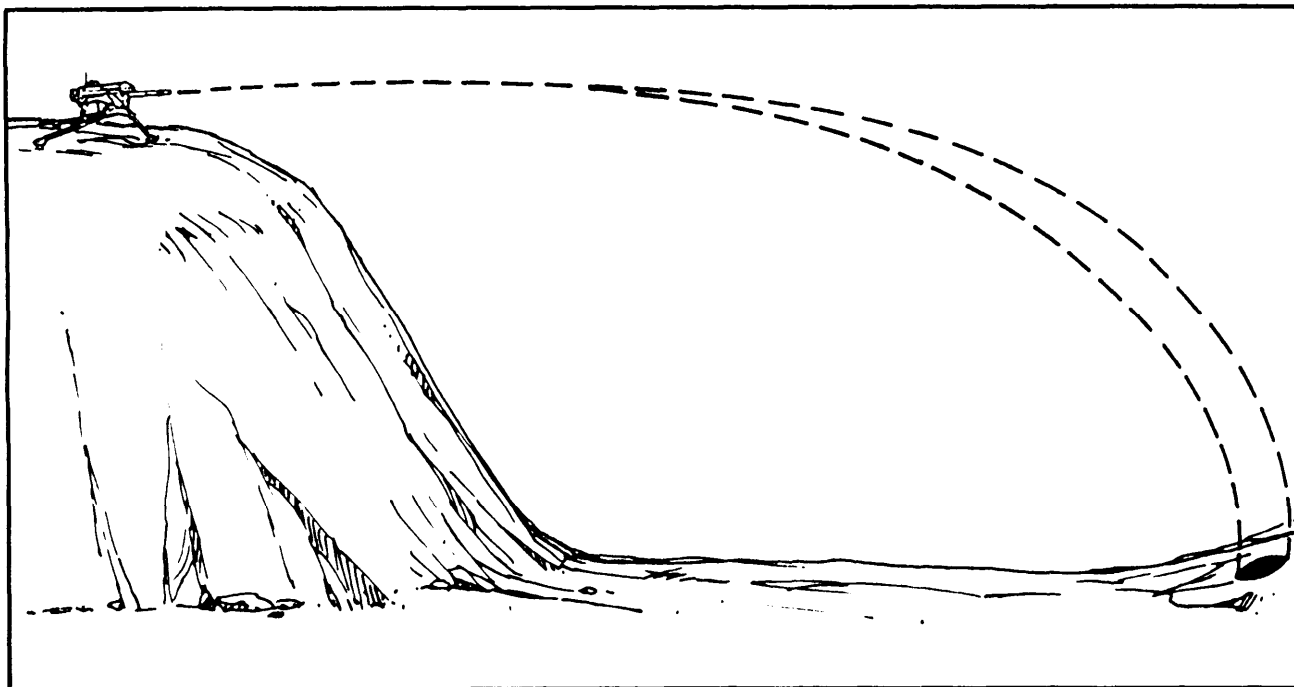

Figure 6-1. Plunging fire.
a. Respect to the Ground. Normally, this means either ing or grazing fire. However, since grazing fire is not practical for use with the MK 19, only plunging fire will be considered. Plunging fire strikes the target from a high angle and confines the danger space to the beaten zone. For example, when fired from the top of a hill, projectiles follow an arcing trajectory and land in the valley. Though there are many forms of plunging fire, this is the most often used (Figure 6-1).